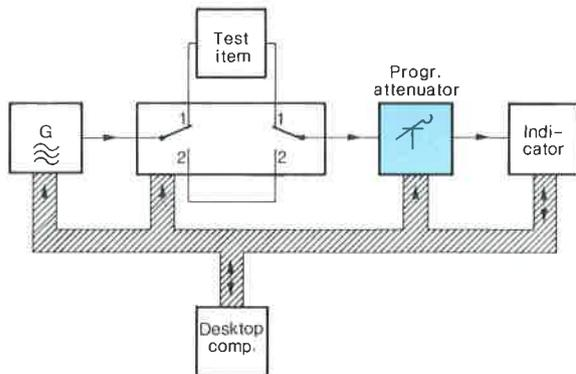

Fig. 5 Automatic test assembly for attenuation and gain measurements using programmable RF attenuators
**Programmable attenuator sets** in combination with programmable signal generators are suitable for setting up fully or semi-automatic test assemblies (Fig. 5) especially in production and test shops. The attenuation settings are made with electro-magnetic motordriven switches. The setting times are very short and always of the same duration as all resistors necessary for obtaining a specific attenuation are switched at the same time (even when switching between the extreme attenuation values). Programming is possible in the ASCII code via the IEC bus (e.g. for DPSP) or with Code Converter PCW and card reader.